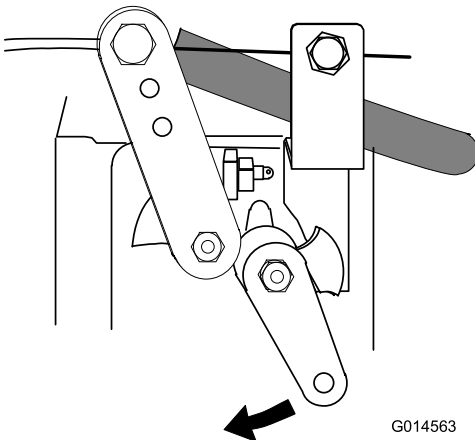

Figure 27
3. Turn the ignition key to the OFF position (0).
If the engine fails to stop when the ignition key is turned to the OFF position (0), move the engine-stop lever forward (Figure 27).